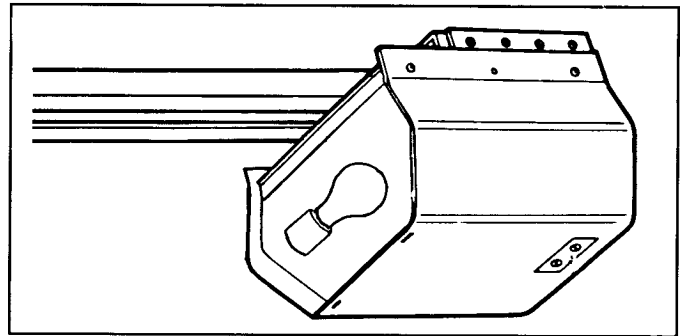

Figure 4. Installing light bulb.
Step 5: Install a 40-watt bulb, appliance type recommended. See Figure 4.